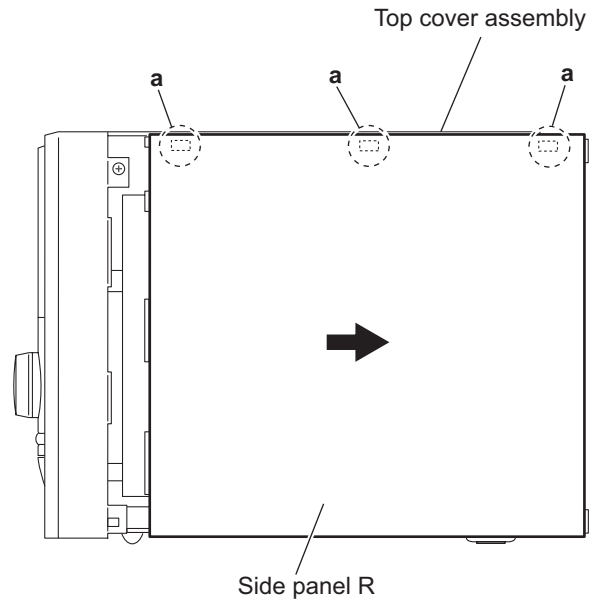

Fig.3
- (3) From the both sides of the main body, release the engagement sections (**a**, **b**) of the side panels L/R from the top cover assembly in the direction of the arrow. (See Figs.3 and 4.)
- (4) Remove the side panels L/R toward this side.